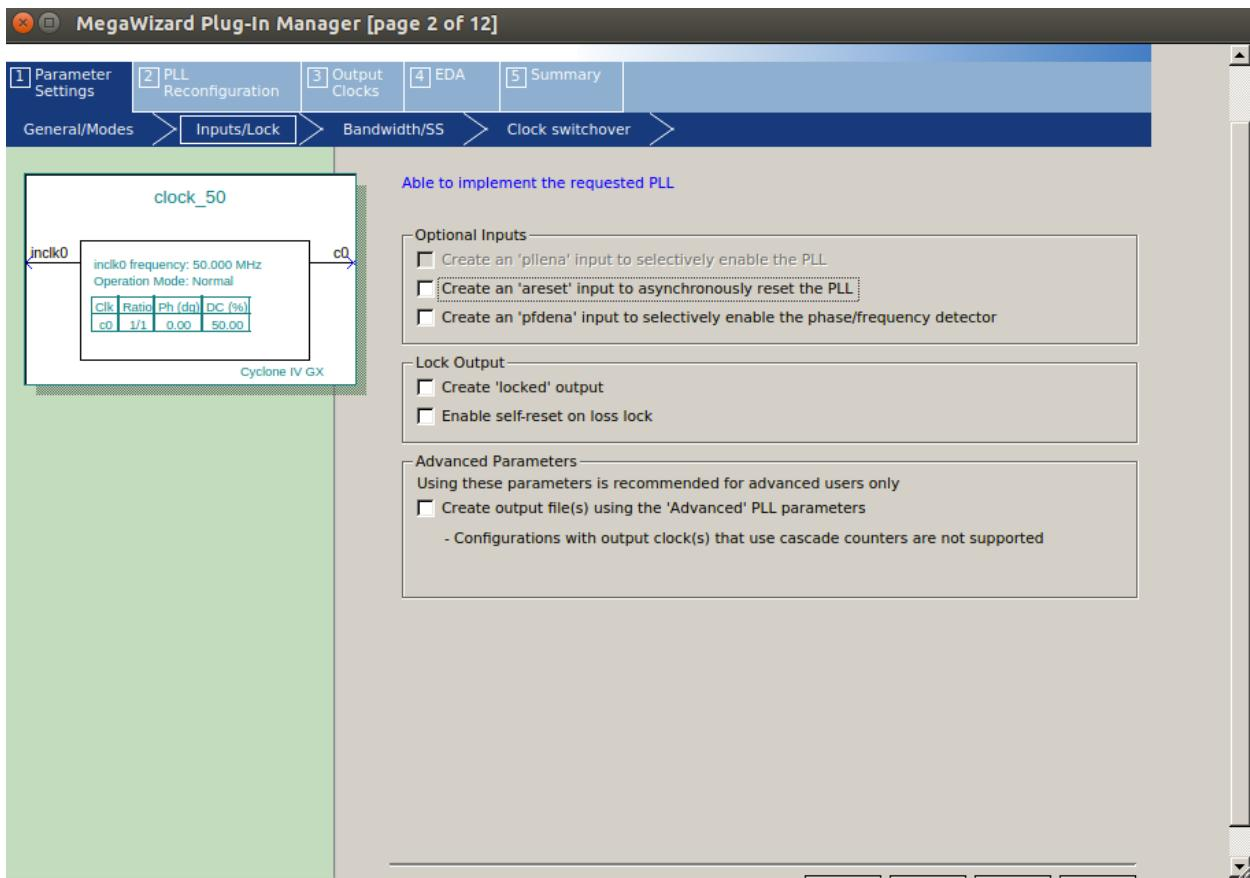

fig 3.1.9
26. Choose Parameter **settings** -> **Inputs/locks** and unselect all options. See fig 3.1.9